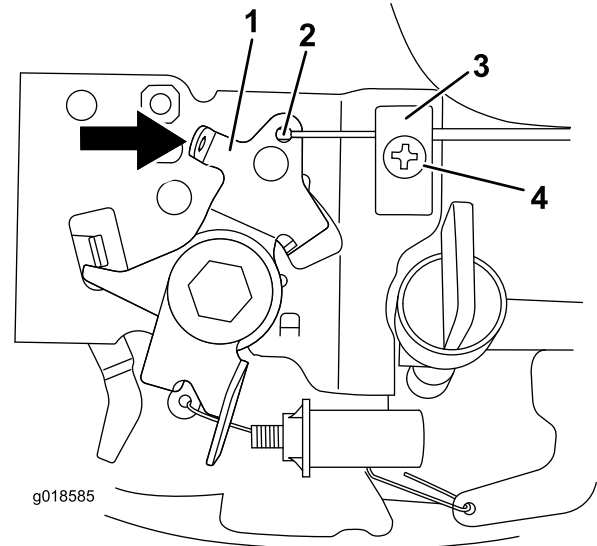

Figure 4
8. Push the lever to the full lock position (Figure 4).
9. Hook the dogend into the lever, then pull the throttle cable taught and tighten the screw (Figure 4).